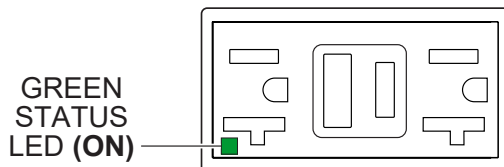

Figure 74. GFCI Receptacle (ON)
3. Verify that the status LED on the corresponding GFCI receptacle (Figure 74) is **ON (GREEN)**.